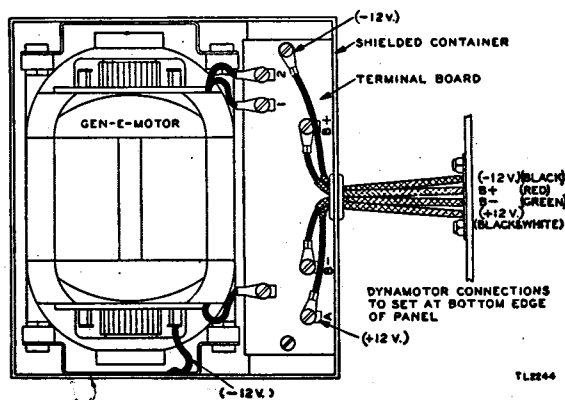

Figure 11. Dynamotor connections.
(1) In Radio Receiver BC-312-(*), replace the repaired dynamotor in the receiver and connect the dynamotor input and output leads (fig. 11). Apply the proper d-c (direct-current) voltage to terminals D and T of socket SO1.
(2) In Radio Receiver BC-342-(*), reconnect the filament lead from the repaired rectifier to terminal No. 5, and the B+ lead to terminal No. 7 of the group-6 terminal board. Depending upon the voltage for which the rectifier is set, connect 110 or 120 volts a-c to socket SO2.